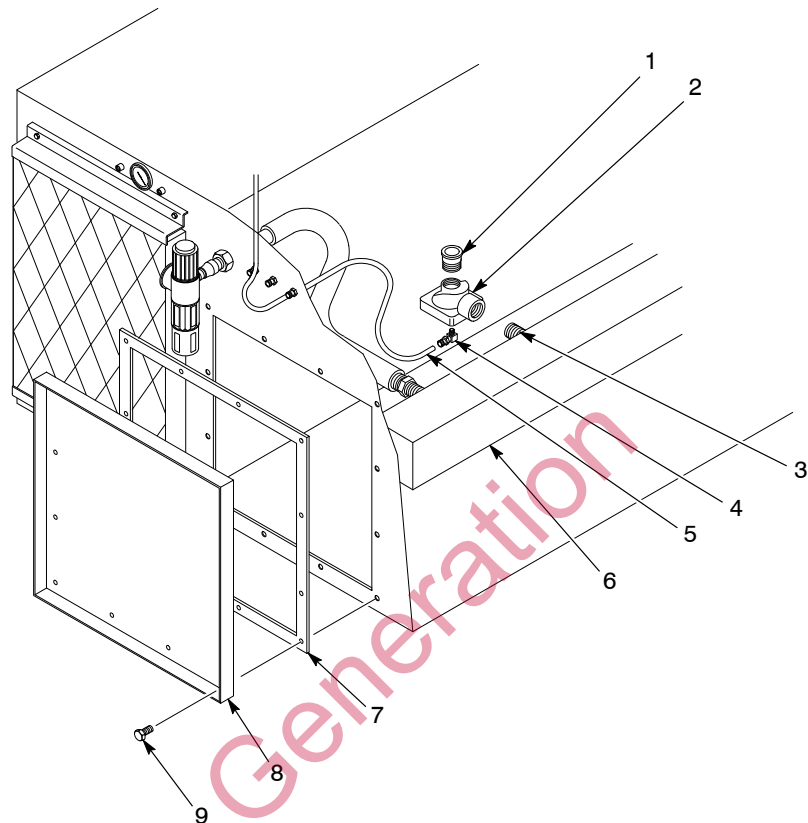
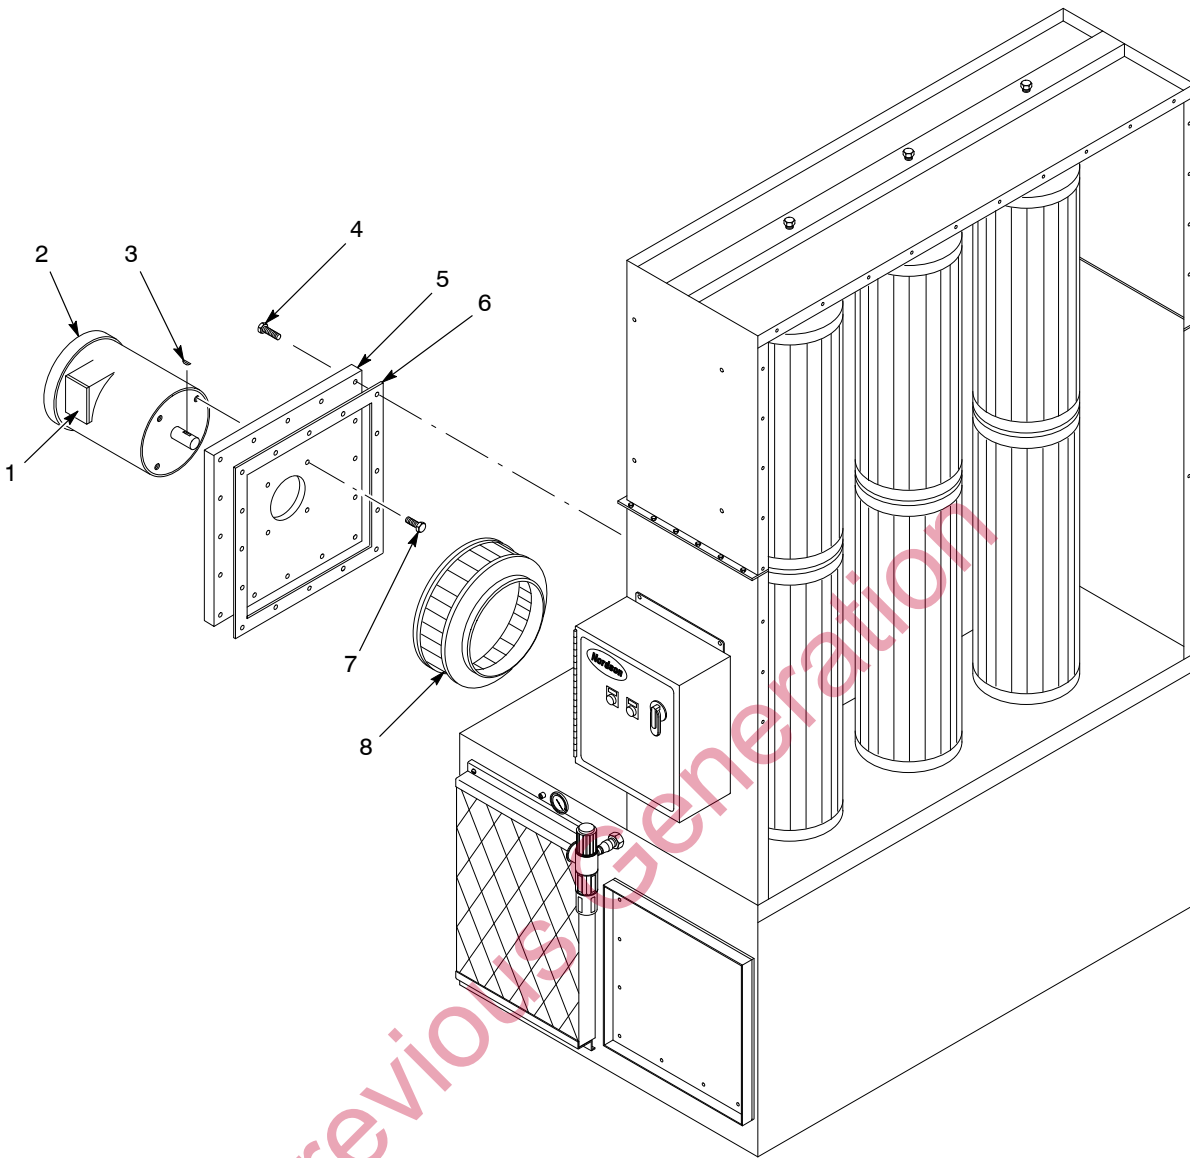

Figure 7-3 Pulse Valve Replacement
Figure 7-4 Fan and Motor Replacement
See Figure 7-3.
See Figure 7-4.
1. Install the new motor (2) onto the motor plate (5), with the junction box (1) oriented as shown in Figure 7-4, using the screws (7).
2. Insert the shaft key (3) into the key way in the new motor shaft.
3. Loosen the set screw in the hub of the new fan wheel (8). Align the slot in the fan wheel hub with the motor shaft key and slide the fan wheel onto the shaft. Torque the fan wheel set screw to 4.0 N•m (36 in.-lb).
4. Inspect the motor plate gasket (6). Replace the gasket if it is damaged.
5. Install the fan and motor assembly into the fan section and secure it with the screws (4).
6. Rotate the fan by hand 360° to make sure it does not rub against the cone. If it does, remove the access panel (See Figure 7-3, (8)), loosen the screws securing the inlet cone, and adjust the cone's position.